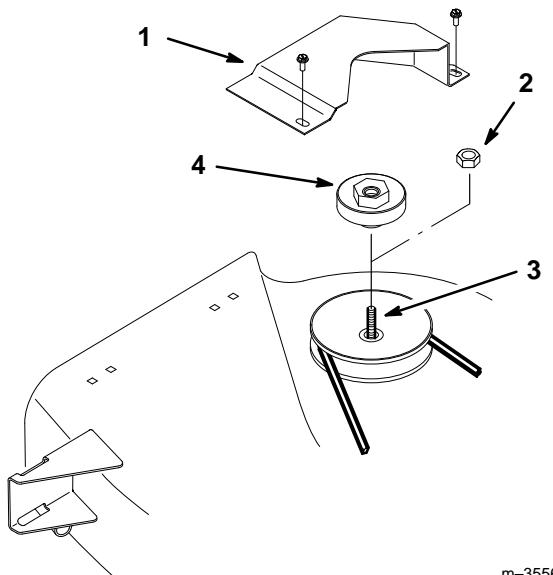

Figure 11
1. Remove the mower belt cover from the right side pulley (Fig. 11).
3. Thread the new blower pulley onto the spindle shaft in place of the pulley nut (Fig. 11). Torque the pulley to 50–75 ft-lbs (68–102 Nm).